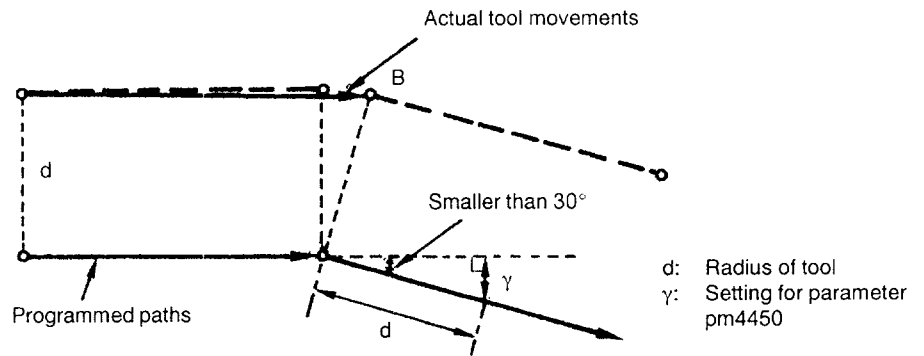

Fig. 3.81 Tool Movements with Small Tangential Angle of Programmed Paths
- Even in the M96 mode, if the tangential angle made between the axis movements specified in the program is smaller than 30° or if γ is smaller than a certain value as shown in Fig. 3.81, round-the-arc motion is not made, but the cutting tool directly moves to point B. Value of γ is set for parameter pm4450. Note that since the value set for pm4450 is also used as the minimum distance for the execution of circular interpolation, the setting for this parameter has influence on normal circular interpolation.